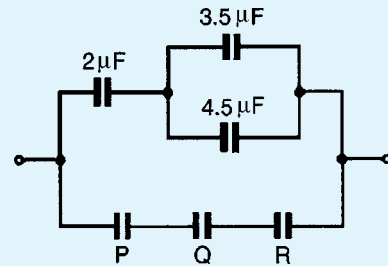

Figure 6.12
- In Fig. 6.12 capacitors  $P$ ,  $Q$  and  $R$  are identical and the total equivalent capacitance of the circuit is  $3 \mu\text{F}$ . Determine the values of  $P$ ,  $Q$  and  $R$